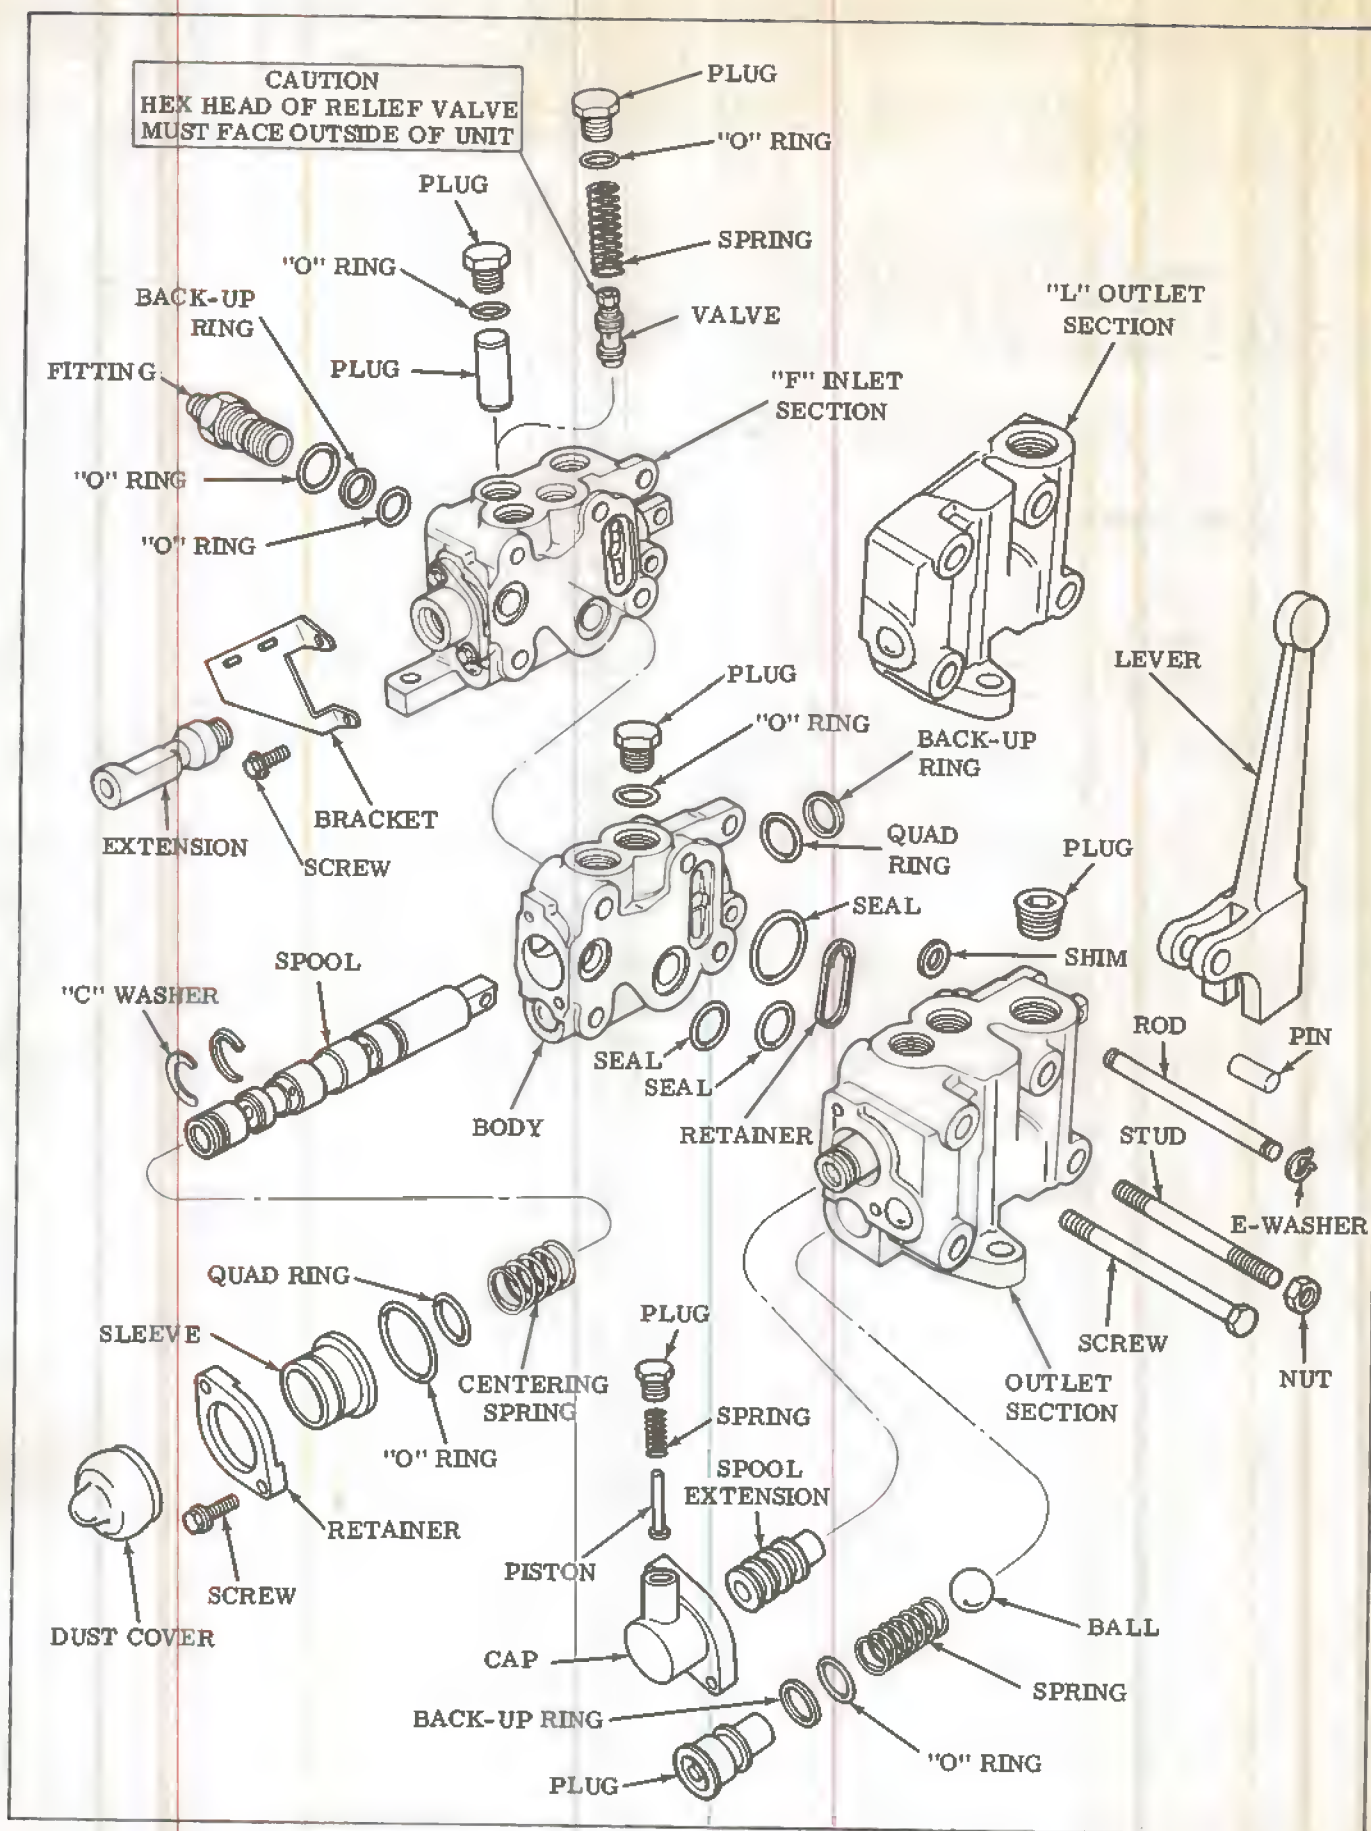

Figure 12
Figure 12 is an exploded view showing the proper relationship for reassembly. Reference is made to these figures in the procedures which follow.
D. ASSEMBLY (Figure 12)